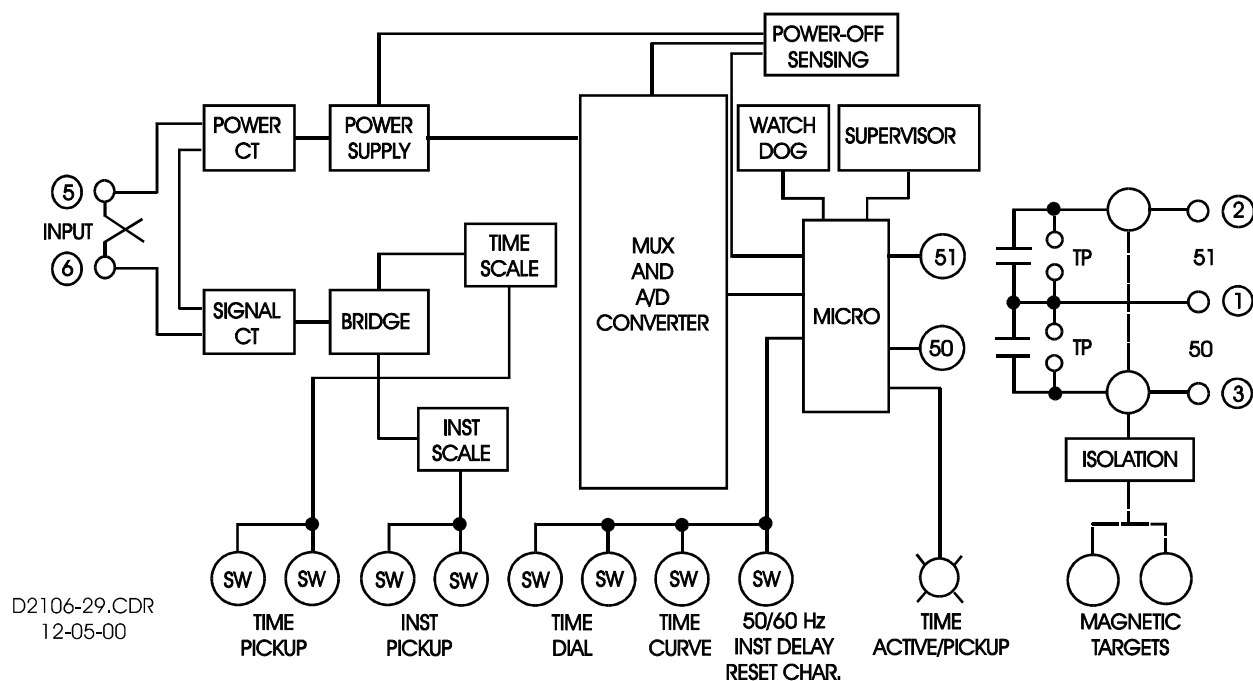

Figure 3-1. Functional Block Diagram
Single phase ac current from system current transformers (CT) is brought into the Overcurrent Relay at terminals five and six. Refer to Figure 3-1 to follow the functional description. The input current is applied to internal power and signal CTs.